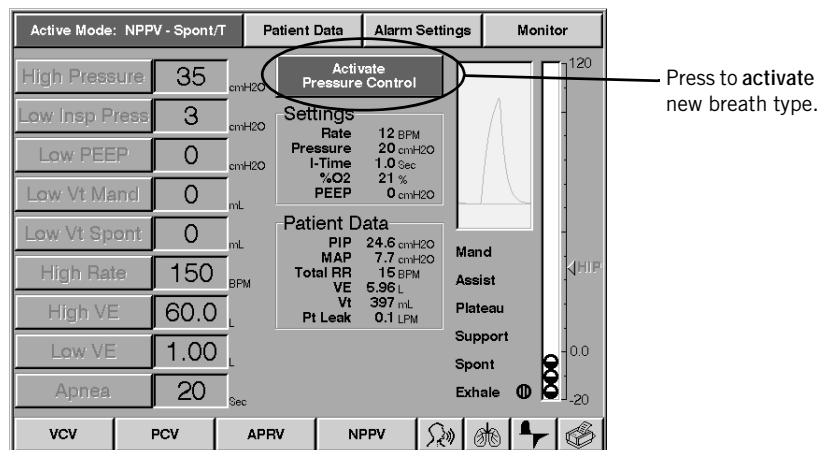

Figure 8-29: Alarm Limits Screen (PCV inactive)
5. If the operator elects to review alarm settings, the alarm settings screen for the destination mode is shown (Figure 8-29). All the alarm limits are grayed out in this screen, because the selected breath type (PCV), is not yet active. However the grayed out buttons can be used to adjust values as seems appropriate for the patient.